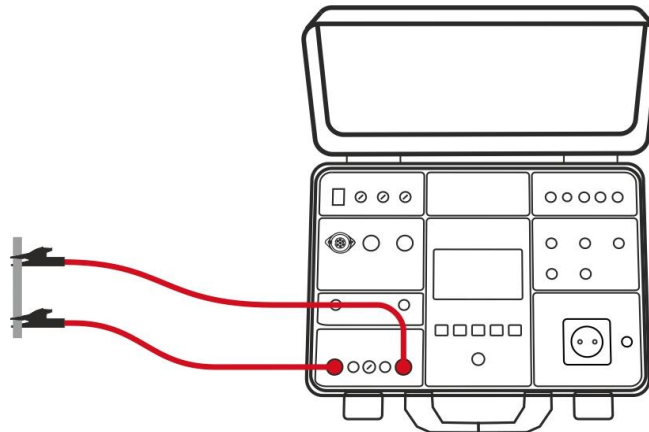

Fig. 26 : Test leads calibration
3. Press the **CAL** touch-screen key (8), the message "SHORTCIRCUIT TEST LEADS AND PRESS START TO CALIBRATE" will appear
4. Connect test leads according to the figure below, make sure two crocodiles are connected as close as possible to each other to a piece of unisolated wire (see Fig. 26)